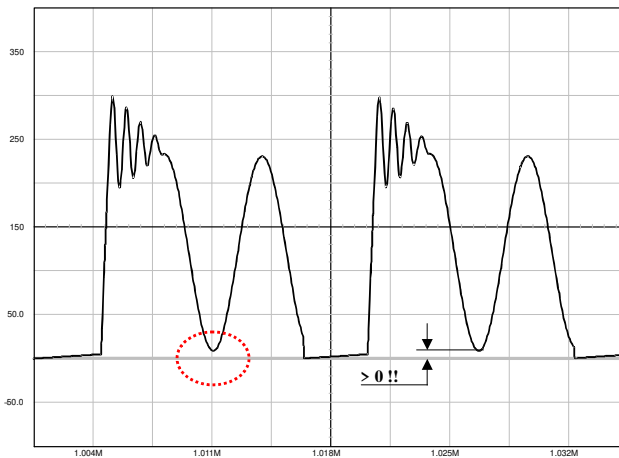

Figure 46. The Drain-Source Wave Shall Always be Positive
1. The lateral MOSFET body-diode shall never be forward biased, either during start-up (because of a large leakage inductance) or in normal operation as shown in Figure 46. This condition sets the maximum voltage that can be reflected during toff. As a result, the Flyback voltage which is reflected on the drain at the switch opening cannot be larger than the input voltage. When selecting components, you thus must adopt a turn ratio which adheres to the following equation: